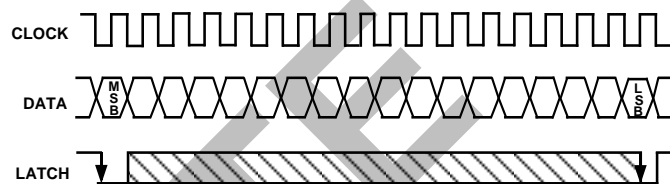
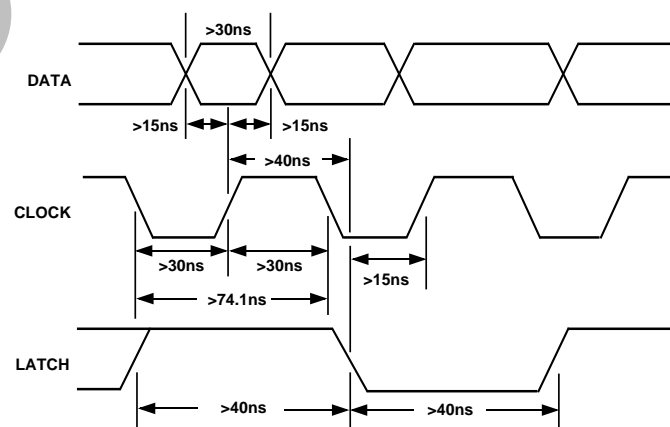

Figure 7. Signal Requirements for AD1861
Figure 8. Timing Relationships of AD1861 Input Signals
Data is transmitted to the AD1861 in a bit stream composed of 18-bit words with a serial, MSB first format. Three signals must be present to achieve proper operation. They are the Data, Clock and Latch Enable (LE) signals. Input data bits are clocked into the input register on the rising edge of the Clock signal. The LSB is clocked in on the 18th clock pulse. When all data bits are loaded, a low-going Latch Enable pulse updates the DAC input. Figure 7 illustrates the general signal requirements for data transfer to the AD1861.
Figure 8 illustrates the specific timing requirements that must be met in order for the data transfer to be accomplished properly. The input pins of the AD1861 are both TTL and 5 V CMOS compatible. The input requirements illustrated in Figures 7 and 8 are compatible with data outputs provided by popular DSP filter chips used in digital audio playback systems. The AD1861 input clock can run at a 13.5 MHz rate. This clock rate will allow data transfer rates for 2×, 4× or 8× or 16× oversampling reconstructions.